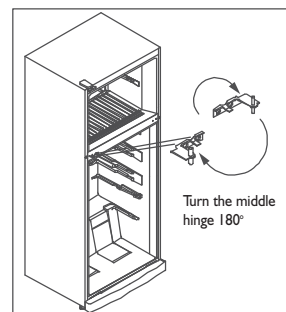

Fig. 9
9. Turn the middle hinge 180°. Fit the freezer and refrigerator doors together with the middle hinge (proceed in reverse order to the sequence described in point 2). Fix the middle hinge by tightening the screws. Finally, using a knife, cut the left side of the kickboard and install it. (Fig. 9)